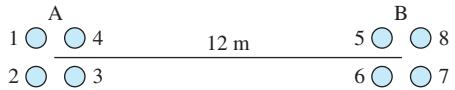

FIGURE P9.48 Single-phase, two-bundle asymmetrical transmission line.
- 9.48** (H)* A single-phase, 60-Hz transmission line is shown in Figure P9.48. Each subconductor's radius is 10 cm, and the distance between neighboring subconductors is 2 m ($D_{12} = D_{23} = D_{34} = D_{41} = D_{56} = D_{67} = D_{78} = D_{85} = 2 \text{ m}$). A